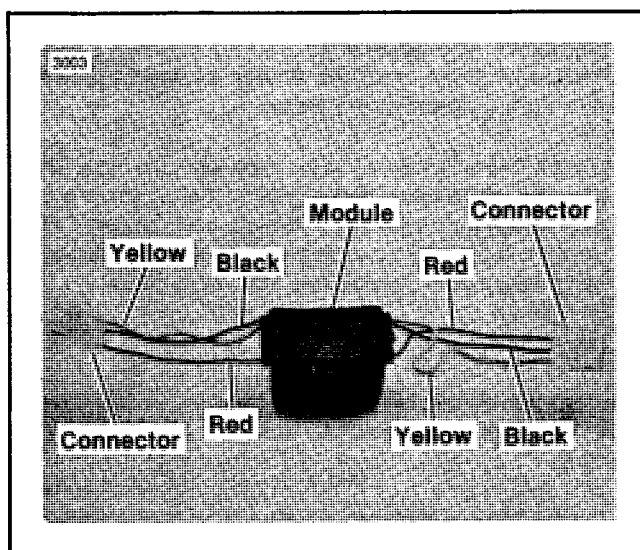

Figure 1. P.I.S. Module
*See Figure 1. The P.I.S. circuit module is a black box. It can be identified by the color coded wires: red, black and yellow. All wire colors are solid.*
*The P.I.S. module is located in the fairing above the headlamp opening. There are two modules on the shelf. See Figure 1. The P.I.S. Module has solid red, black and yellow wires. The remaining module is the choke module.*
2. Check the wire colors to be sure you are removing the correct module. See Figure 1. Reach in through the headlamp opening. Unplug and discard the P.I.S. module. Connect the wiring harness by plugging the circuit connectors into each other.
2. Check the wire colors. See Figure 1. Unplug and discard the P.I.S. module. Connect the wiring harness by plugging the remaining circuit connectors into each other.